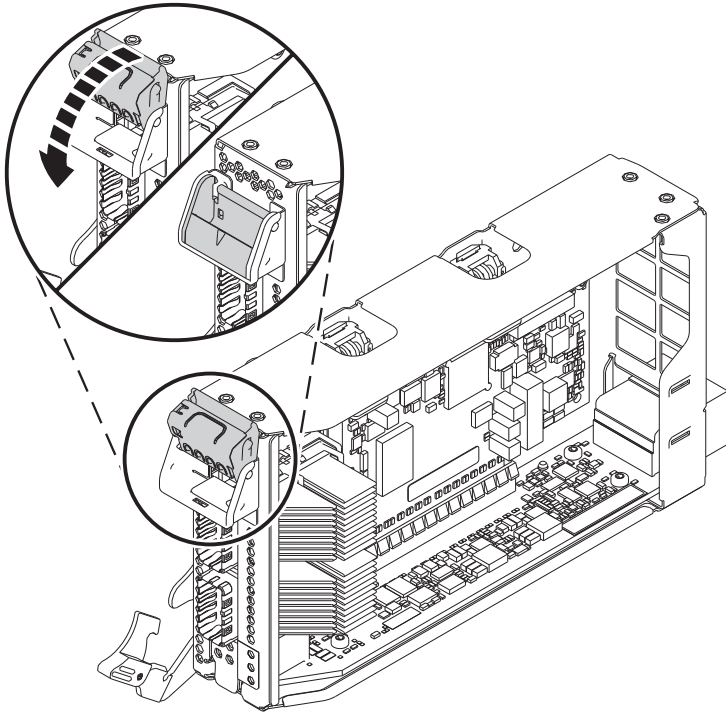

Figure 30. Placing a half-length low-profile adapter in the PCIe adapter cassette
- c. To lock the adapter in place, rotate the tailstock latch as shown in Figure 30 on page 30.